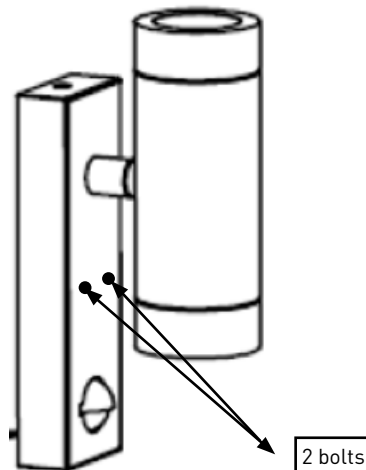

Fig1
- To access the terminal block remove the rear access panel by removing the 2 bolts on the front as shown in Fig 1.